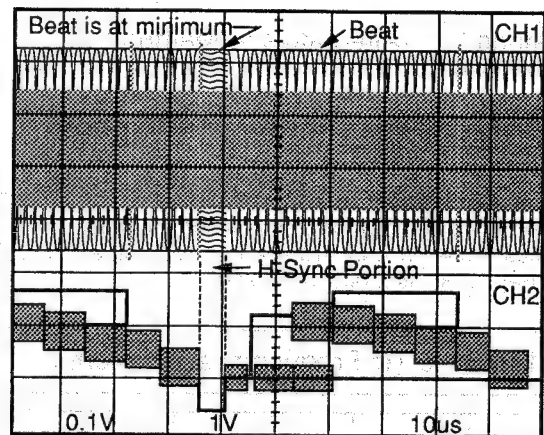

Fig. E6-2
2. Adjust R3010(SYNC TIP FREQ) so that the beat is at minimum as shown in Fig. E6-2.
3. Set the frequency of the signal generator to 3.5MHz again. And confirm that the beat is at minimum as shown in Fig. E6-2. If not, readjust R3010(SYNC TIP FREQ).